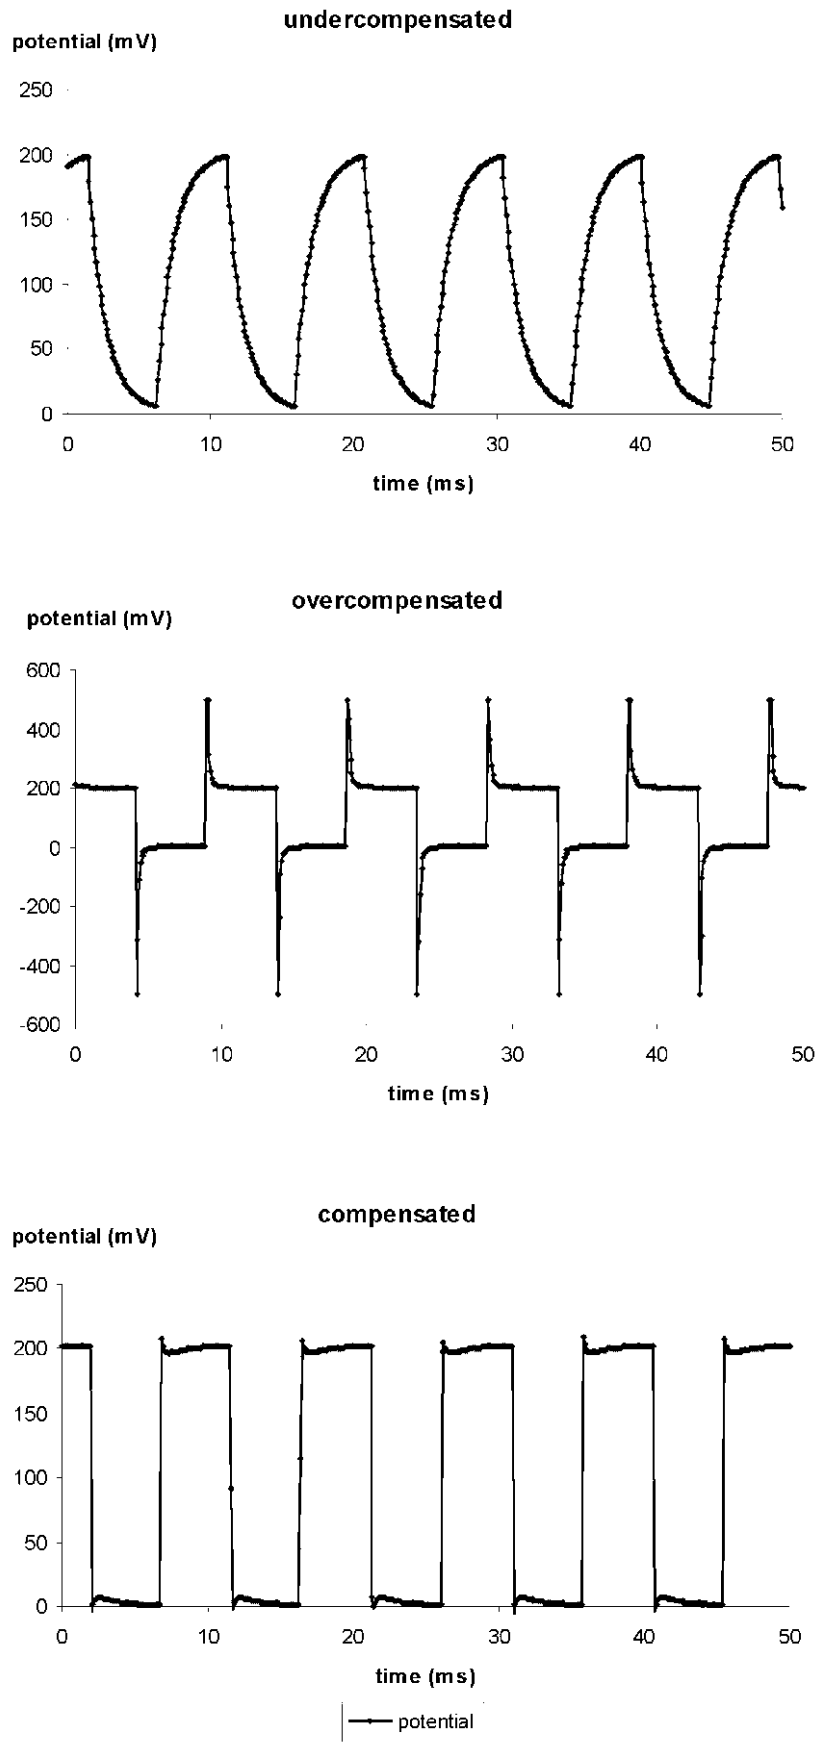

Figure 8: Tuning of the capacitance compensation using a 100 MΩ resistor
With the cell model connected or the electrode in the bath the CAP. COMP. control is turned clockwise until there is no artifact on the POTENTIAL OUTPUT (see Figure 8).
- Compensate the input capacitance as shown in Figure 8 using the CAPACITY COMPENSATION potentiometer (#30, Figure 1).
Figure 8 illustrates the capacitance compensation procedure using a 100 M Ω resistor that represents the electrode. The pulses were generated using the automated electrode resistance test circuit of the BA-1S. The upper diagram shows an undercompensated capacitance. In the diagram in the middle the capacitance is slightly overcompensated and in the lower diagram it is well compensated.
- Immerse the electrode into the bath (not in a cell) as deep as necessary during the experiment. Test the capability of the electrode to carry current (see chapter 7.4), compensate the potential offset (see chapter 7.2), measure the electrode resistance (see #10, chapter 3.2) and compensate the input capacitance (see chapter 7.3 and Figure 8).